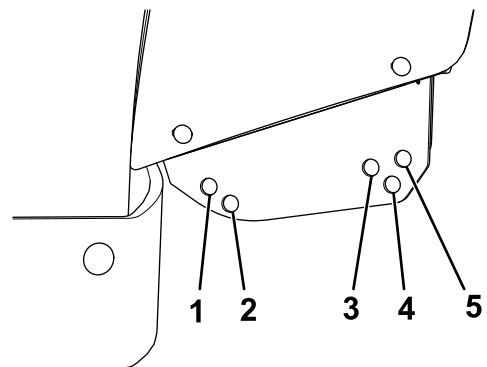

Figure 9
- Determine which holes on the plow wing to use for mounting the cutting edge using Figure 9 and the following list: